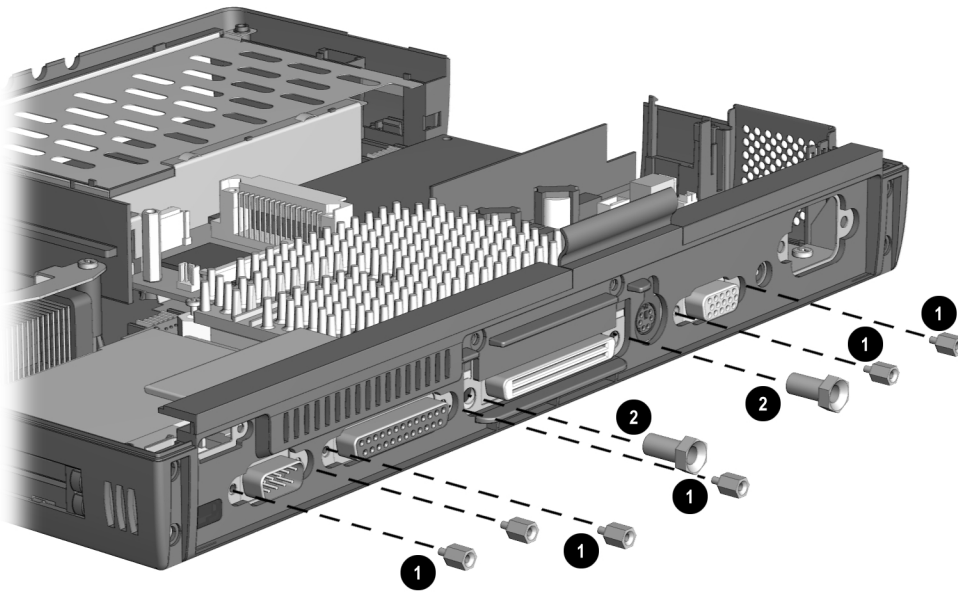

Figure 5-51. *Removing the System Board Screwlocks and Bushing Guides*
17. Remove the six screwlocks ❶ and the two bushing guides ❷ (Figure 5-51).